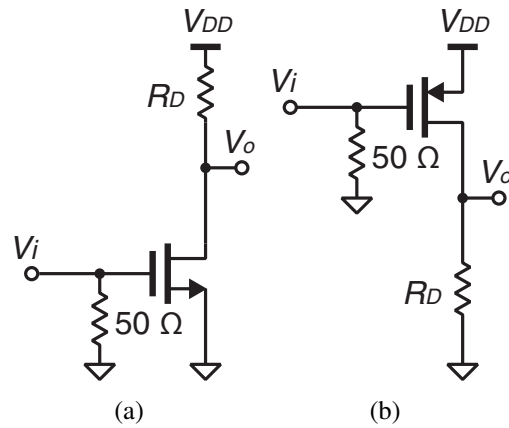

Figure 2: (a) NMOS and (b) PMOS common-source amplifiers with a $50\text{-}\Omega$ input impedance.
1. Implement the common-source amplifier on the breadboard. Connect a 50- Ω resistor across the input and the ground as shown in Figure 2. This resistor is important for the voltage reading of the signal generator to be correct. Most of the signal generators have a 50- Ω output impedance and the voltage reading is correct only if its load is 50 Ω . **You will need this 50- Ω termination many times in future labs when you use a signal generator although it won't be explicitly shown in lab manuals.**